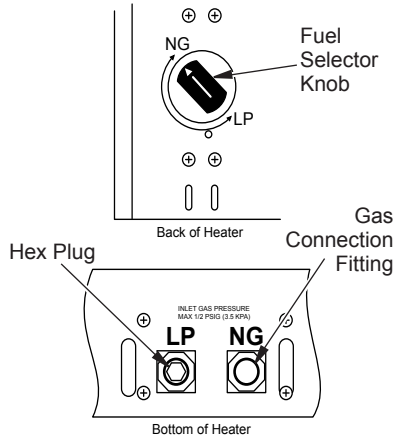

Figure 12 - Settings for Natural Gas Selection
1. Remove top screw from cover plate located on back of heater (see Figure 12). Rotate to expose fuel selection device.
2. For NATURAL GAS, press in knob using a flat screwdriver with a blade with thickness of a quarter and turn knob clockwise until the knob locks into the NG position (see Figure 12). Fuel selection device must be locked in the NG position. Do not operate heater between locked positions!
4. Remove hex plug (with wrench provided) from natural gas inlet of regulator (see Figure 12). Install hex plug into LP inlet of regulator. Install gas line into NG inlet of regulator. Use thread sealant to ensure that there are no leaks.